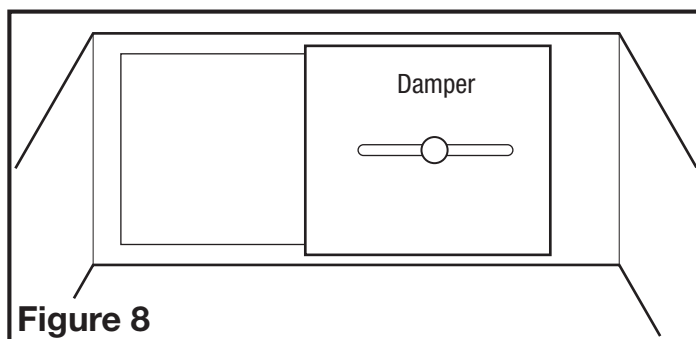

Figure 8
- 1a. **4" Inline Kits:** Locate the damper inside of the inlet housing and slide it to cover or uncover as much of the opening as is necessary to balance the system (**Figure 8**).